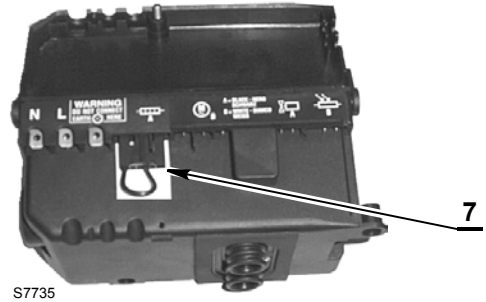

Fig. 19
- If the heater is damaged, introduce the bridge 7) (Fig. 19) into the safety housing so that the burner can operate without the heater until the heater is replaced.
As a spare part, the housing is delivered with the bridge 7) (Fig. 19) in place.